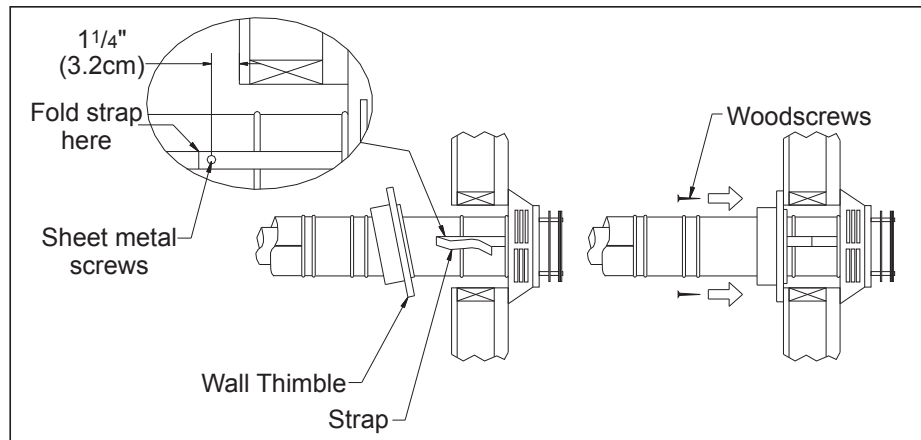

Figure 28: Installing Decorative Wall Thimble.
- Slide the appliance and vent assembly towards the wall, carefully inserting the vent pipe into the cap assembly. It is important that the vent pipe extend into the vent cap a sufficient distance with a minimum of 1 1/4" (3.2cm) overlap. Secure the connection between the vent cap pipe and the vent cap by attaching the two sheet metal straps extending from the vent cap assembly into the outer wall of the vent pipe. Use the two sheet metal screws provided to connect the straps to the vent pipe. Bend any remaining portion of the sheet metal straps back towards the vent cap, so the decorative wall thimble will conceal it (see left image in Figure 28).
- Slide the decorative wall thimble up to the wall surface and attach with the screws provided. Apply decorative brass or chrome trim if desired (see right image in Figure 28).